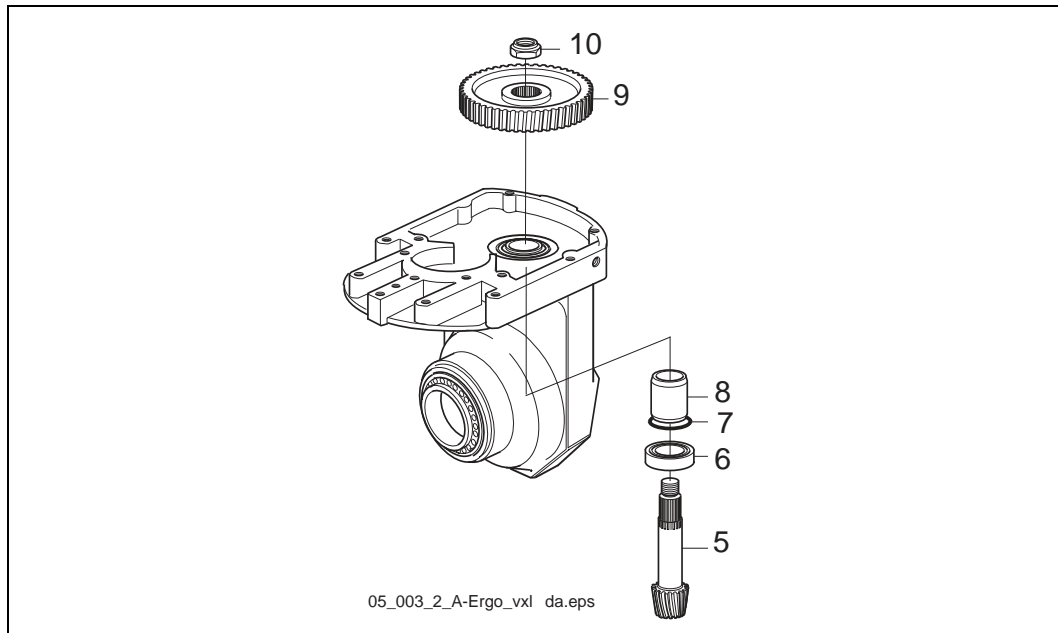

Figure 5.3 Fit the pinion shaft.
2. Fit the pinion shaft, pos. 5, in its position (see figure 5.3).
5. If the engagement is shown as in the figure, the number of shims, pos. 7, on the pinion shaft, pos. 5, must be reduced (see figure 5.3).
6. If the engagement is shown as in the figure below, the number of shims, pos. 7, on the pinion shaft, pos. 5, must be increased (see figure 5.3).